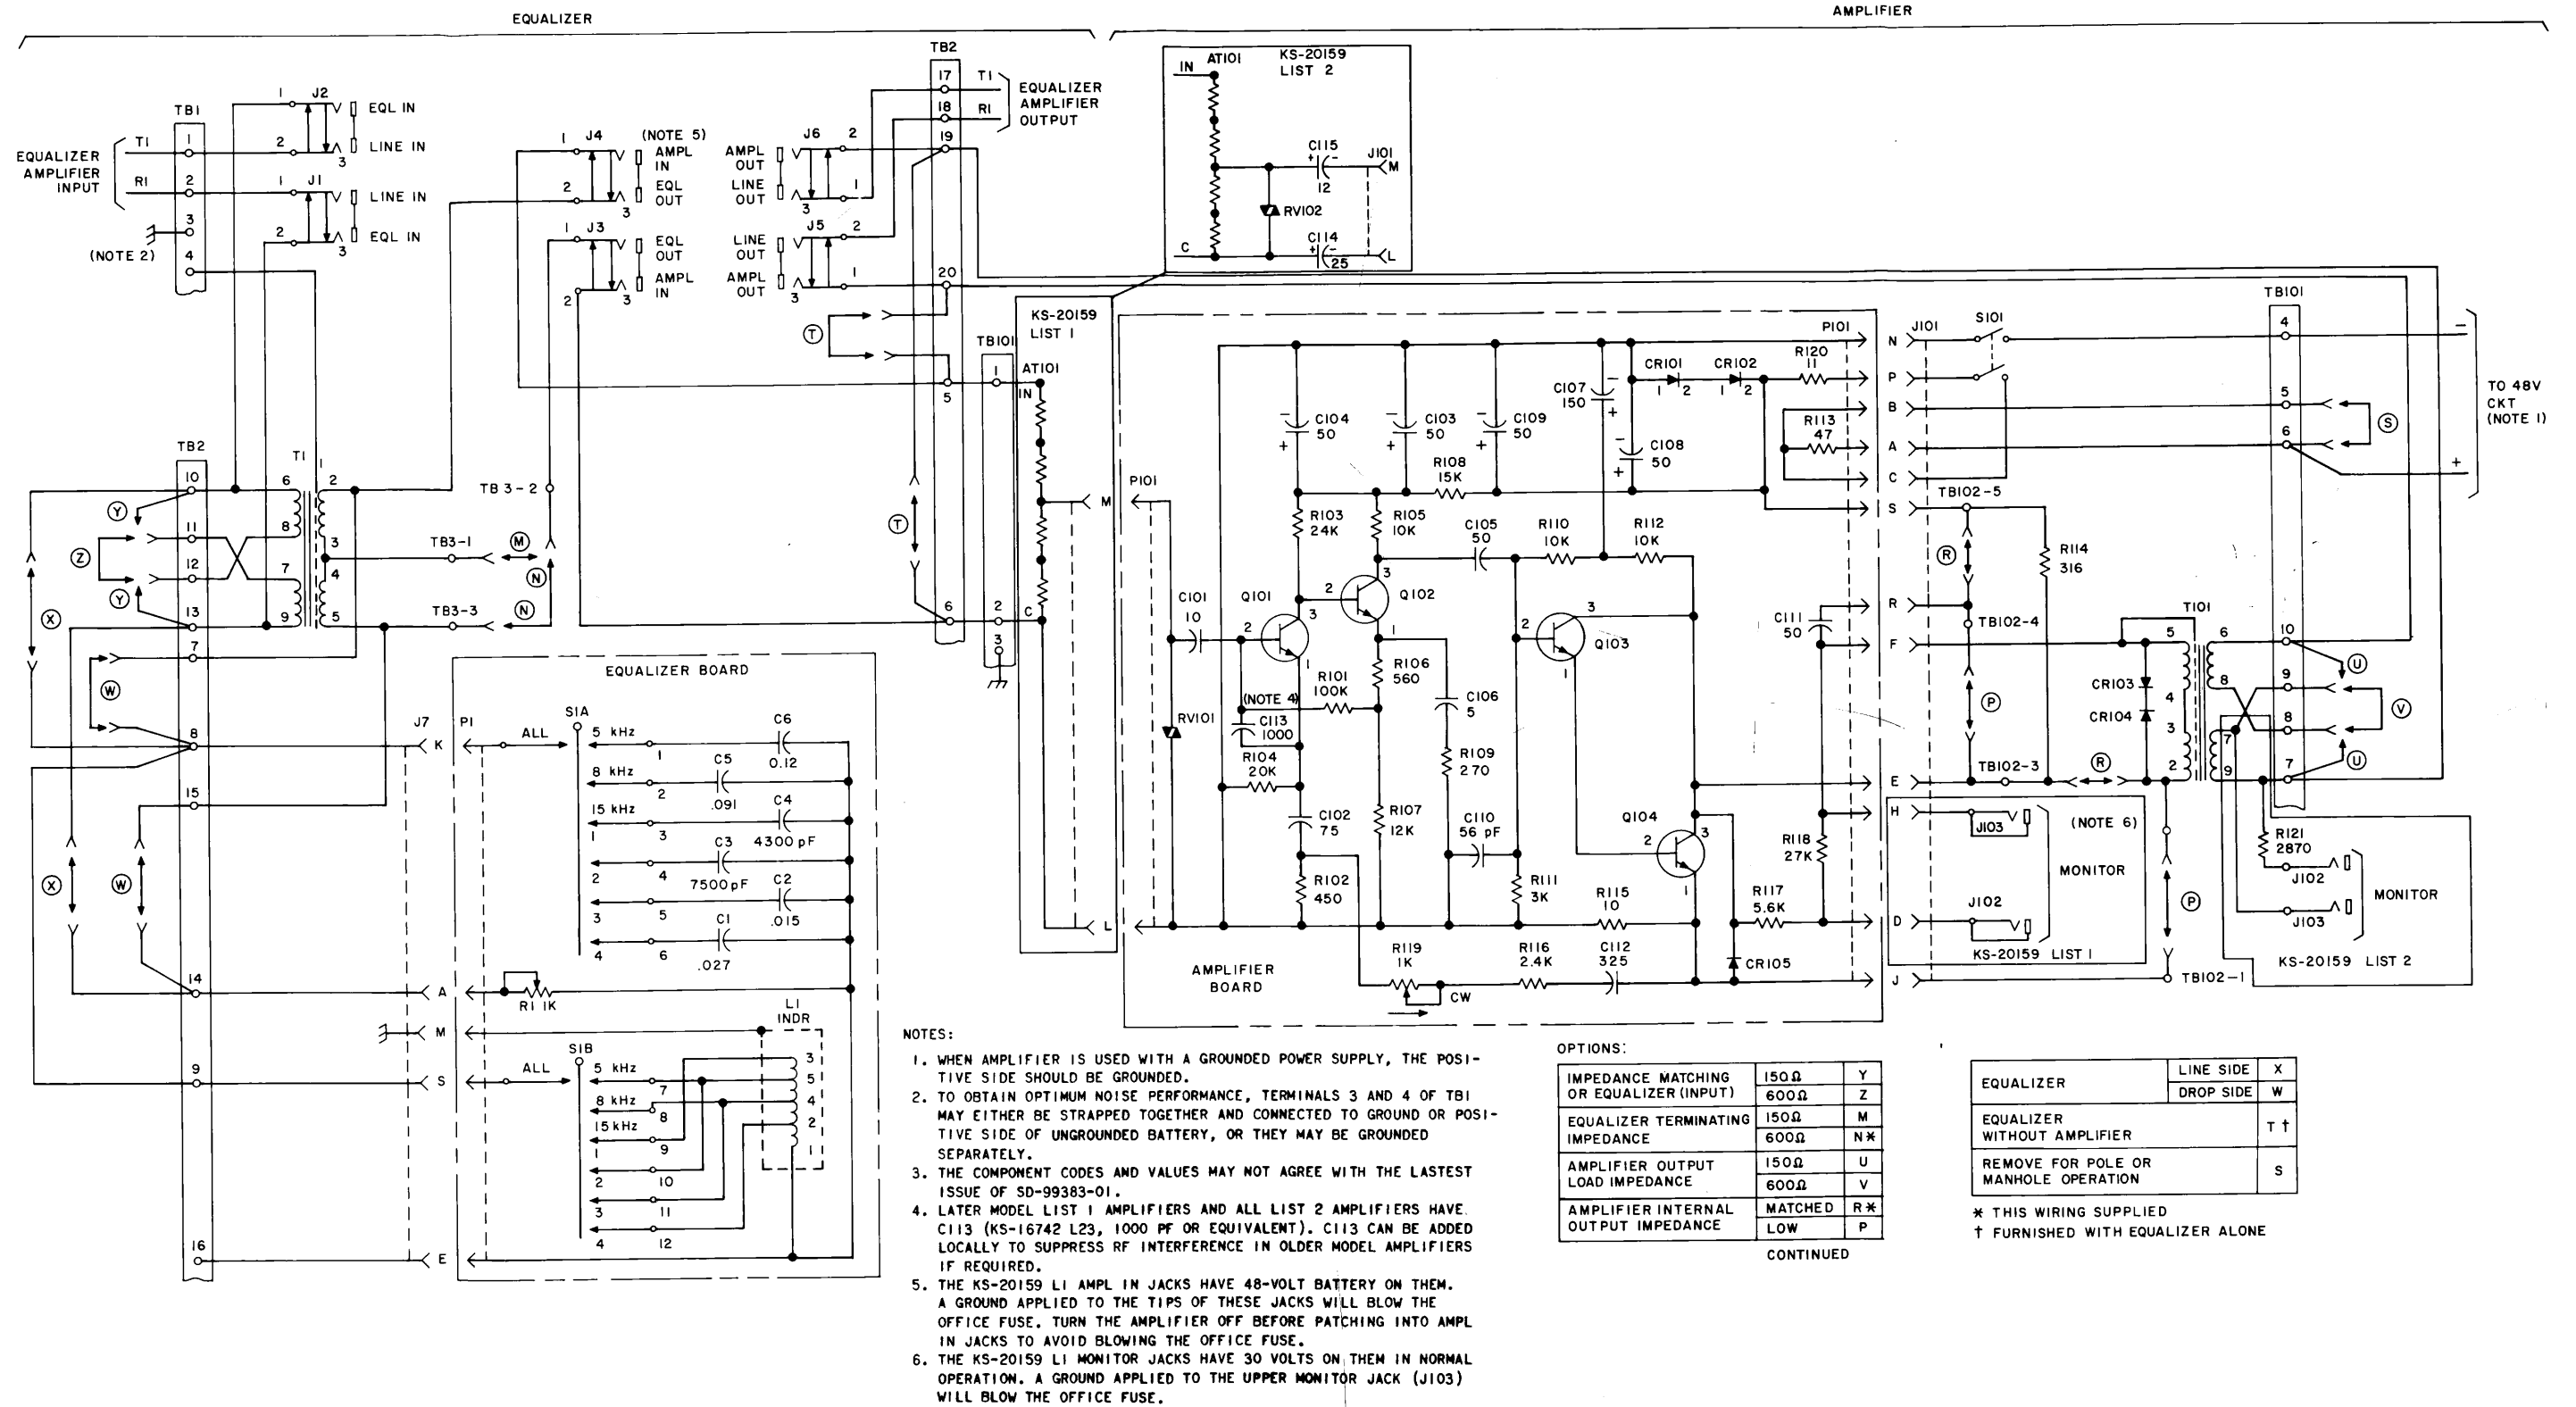

Fig. 3—KS-20159 Equalizer-Amplifier, Typical Schematic Diagram
- To add notes in Fig. 3 to turn the amplifier OFF when patching to AMPL IN jacks.
2.01 The equalizer circuit shown in Fig. 3 is essentially an adjustable RCL circuit which may be strapped across either the line or drop side of the transformer T1. The RCL circuit is composed of a continuously variable resistor R1, in series with a parallel combination of selected inductance and capacitance. Variable resistor R1 is a 1000-ohm, 10-turn potentiometer equipped with a dial which reads directly in ohms. Its setting determines the
2.03 The amplifier circuit shown in Fig. 3 consists of two gain controls, a 3-stage transistor amplifier, an output transformer, and a twin jack for headphone monitoring. The input transformer is contained in the equalizer portion of the circuit where it also serves as a line repeating coil.